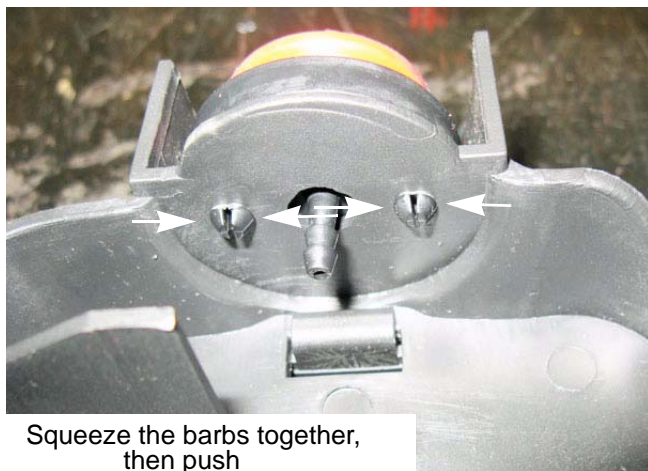

Figure 4.37
3. Squeeze the two sets of tabs together and push the primer out of the housing. See Figure 4.37.